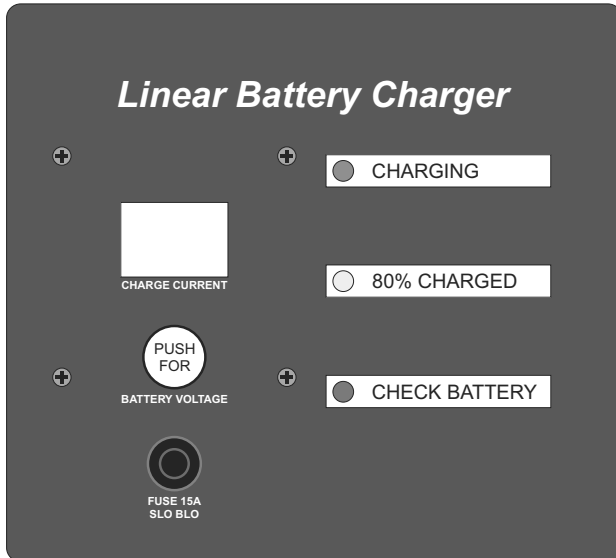

Figure 3-5 Battery Charger Faceplate
- Plug the extension cord into a grounded 120 VAC outlet. Verify that the green CHARGING indicator LED is lit on the battery charger faceplate (Figure 3-5).